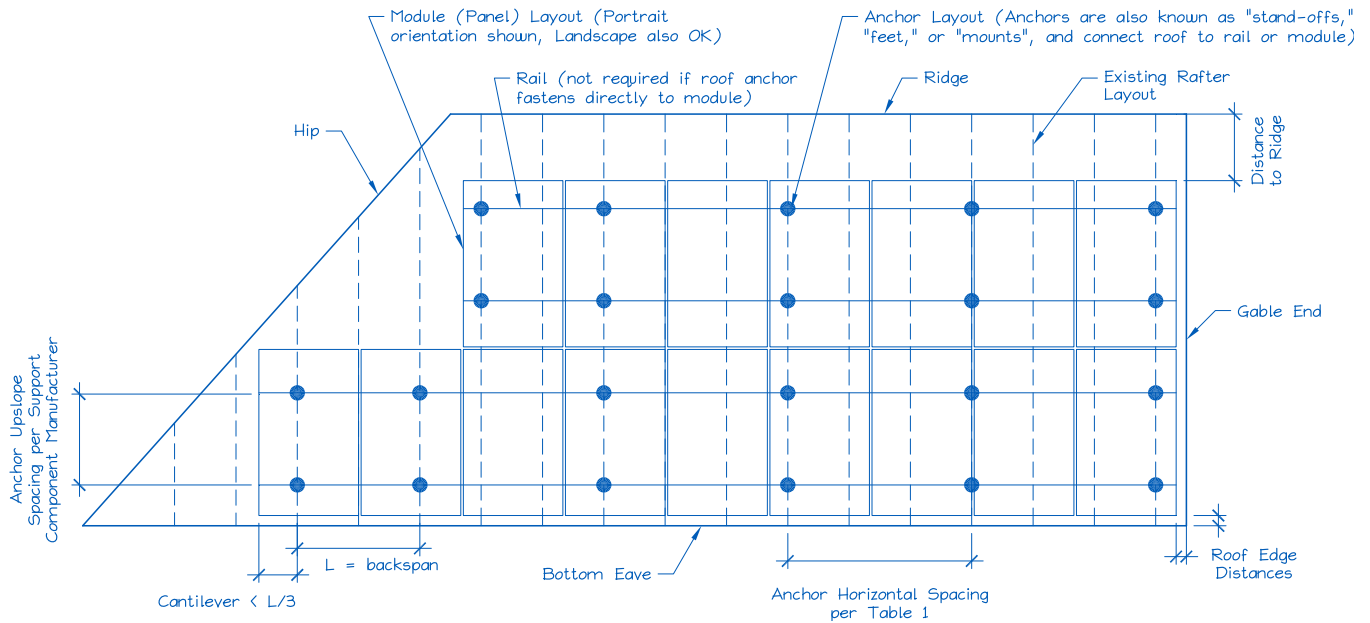

Figure 1. Sample Solar Panel Array and Anchor Layout Diagram (Roof Plan).
E. Is a roof plan of the module and anchor layout attached? (see Figure 1)
- 1) Proposed anchor horizontal spacing (see Figure 1):
1. Anchors are also known as “stand-offs”, “feet”, “mounts” or “points of attachment”. Horizontal anchor spacing is also known as “cross-slope” or “east-west” anchor spacing (see Figure 1).